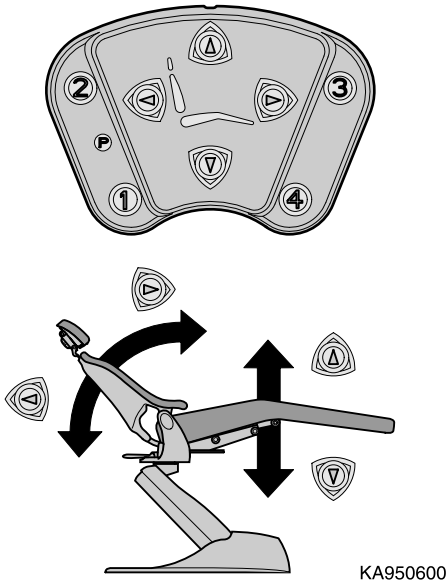

Figure 2-4. Foot Control
- (14) Depress Back Up, Back Down, Base Up, Base Down buttons on foot control (Refer to Figure 2-4).